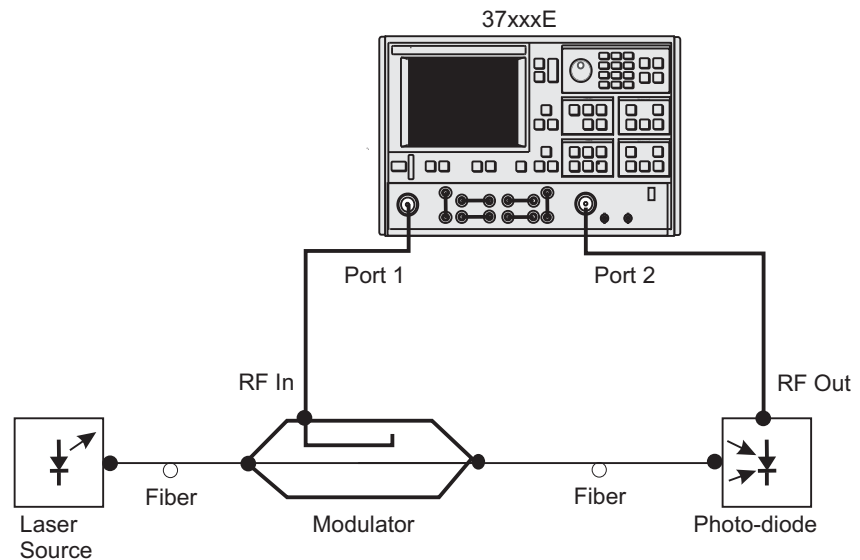

Figure 8-36. O/E Measurement Set-up
Photo-diodes/photo-receivers convert an optical signal into an electrical signal. Bandwidth measurements can be made on a photo-diode/photo-receiver by stimulating its input with a modulated optical signal and measuring the output signal. A laser and a characterized modulator are required, in addition to the VNA, to make O/E measurements. See Figure 8-36, below, for the equipment set-up.
- Step 1.** Set-up the measurement as shown in Figure 8-36, previous page.
With the measurement set-up as shown in Figure 8-36, select **DE-EMBED O/E S2P (DETECTOR STD)** (menu DE2, previous page).